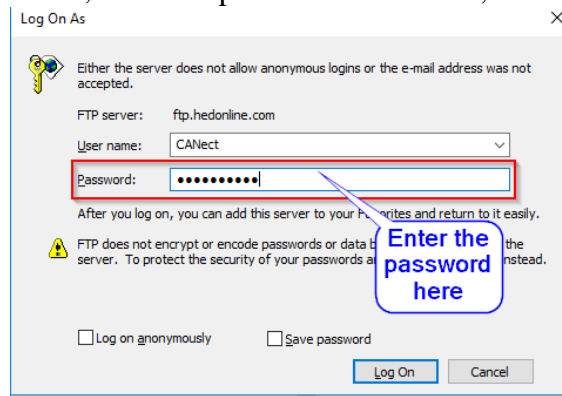

Figure 3: HED Server Password
3. A server log in screen opens, as shown in Figure 3.
- In the Password field, enter the password FirstTools, as shown in Figure 3.